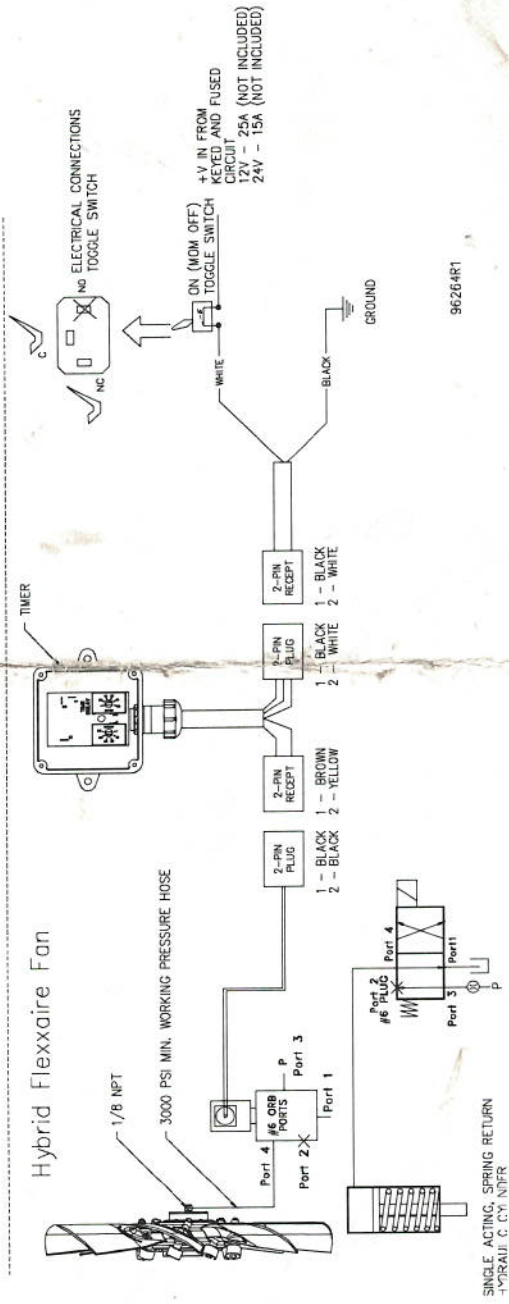

Figure 1: Flexxaire 2-Position Fan Wiring and Hydraulic Schematic
## HYDRAULIC VALVE INSTALLATION - Refer to Figure 1
## ELECTRICAL INSTALLATION – Refer to Figure 1
Please see Figure 1 for a detailed description of the electrical system wiring arrangement for Flexxaire's hydraulic, 2-position fans.
**NOTE:** Control valve bodies from Flexxaire include an orifice which is used to control the speed at which the blades change pitch. Please see **Figure 1** for information regarding the specific location of the orifice. Under no circumstances should a Flexxaire fan move from the "PULL" to "PUSH" blade positions in less than 1 second. Please contact your Flexxaire representative if the blade pitch interval is less than 1 second.